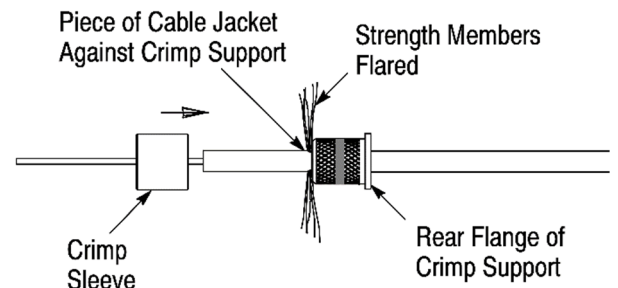

Figure 4
1. Apply a continuous bead of the instant adhesive around the cable jacket between 4 and 5 mm from the stripped end of the jacket. See Figure 4, Detail A.
2. Rotate and slide the crimp support (large diameter end first) over the fiber and strength members and onto the jacket until it bottoms (rotating the crimp support between the thumb and index finger will help feed the strength members through the crimp support). See Figure 4, Detail B.
3. Apply a thin band of the instant adhesive around the knurled portion of the crimp support. Make sure that the band is continuous around the entire circumference. See Figure 4, Detail C.
4. Slide the piece of cable jacket (stripped from the cable in Paragraph 5.1) over the buffered fiber and into the center of the strength members until it bottoms against the crimp support and the strength members are flared away from the fiber. See Figure 4, Details D and E.
5. Slide the crimp sleeve over the fiber and piece of cable jacket so that the strength members fold back evenly around and over the crimp support and until it bottoms on the rear flange of the crimp support; then remove the piece of cable jacket. This step should be performed quickly before the adhesive begins to harden. See Figure 4, Detail E.